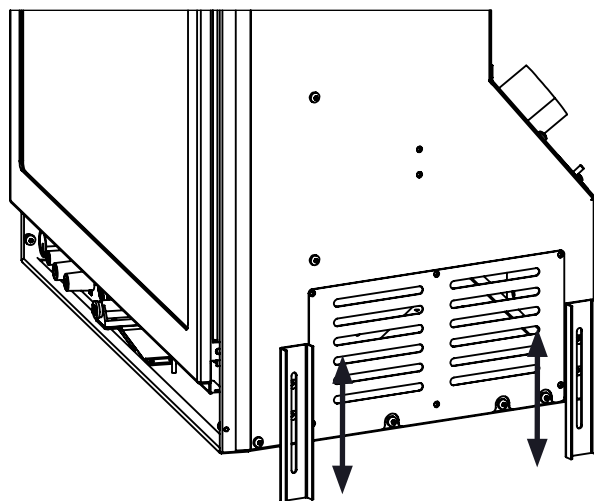

Figure 27: Levelling legs position.
8. Using a T20 driver, adjust the levelling legs to ensure the unit is level and high enough if a base shelf and/or riser is to be installed. There are two (2) levelling legs on each side (shown in Figure 27).